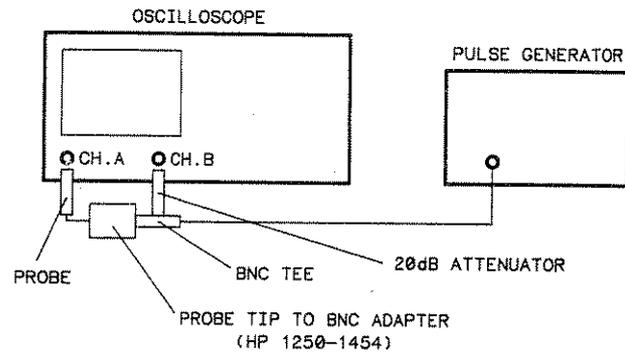

Figure 6. High-frequency Compensation Test Setup
- Connect equipment as in figure 6.